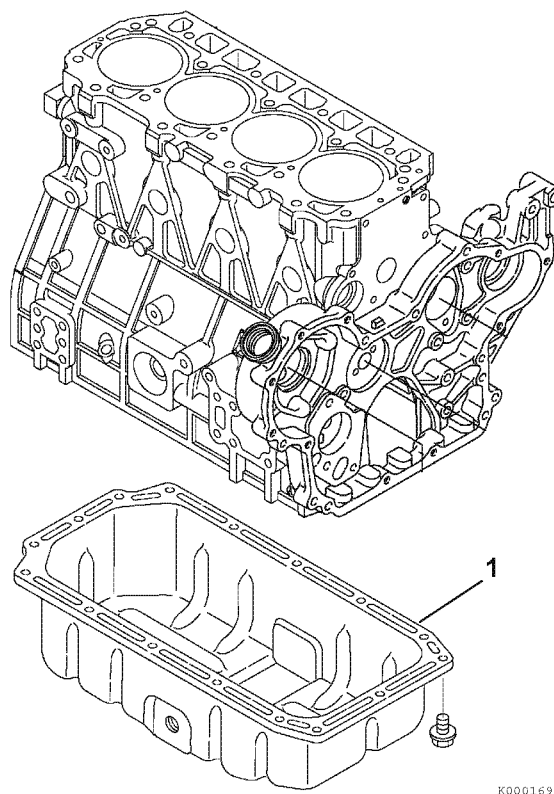

Figure 6-93
2. Remove the oil pan (1, **Figure 6-93**).